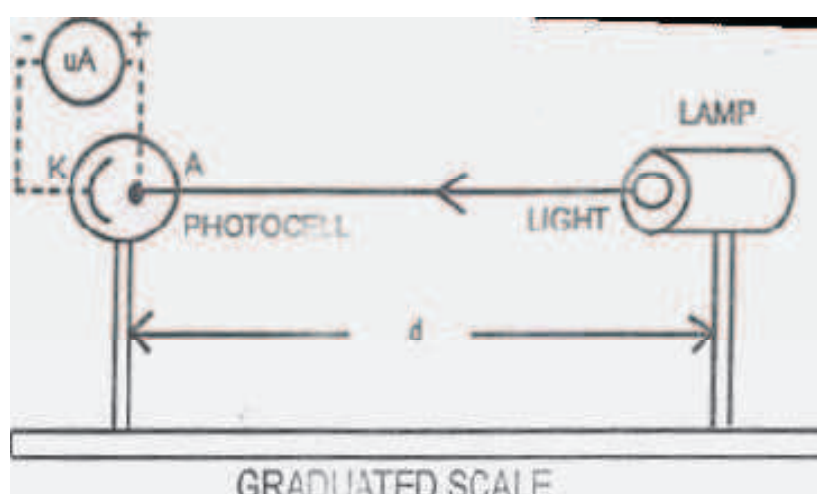

Figure 4: Experimental Board
1. The experiment can be performed in the laboratory but it is always good to perform it in a dark room where stray light falling on the photocell can be avoided. In the dark room mount the various parts of the apparatus on the wooden plank provided with a  $\frac{1}{2}$  meter scale. Make the other connections as shown in the Fig. 4.